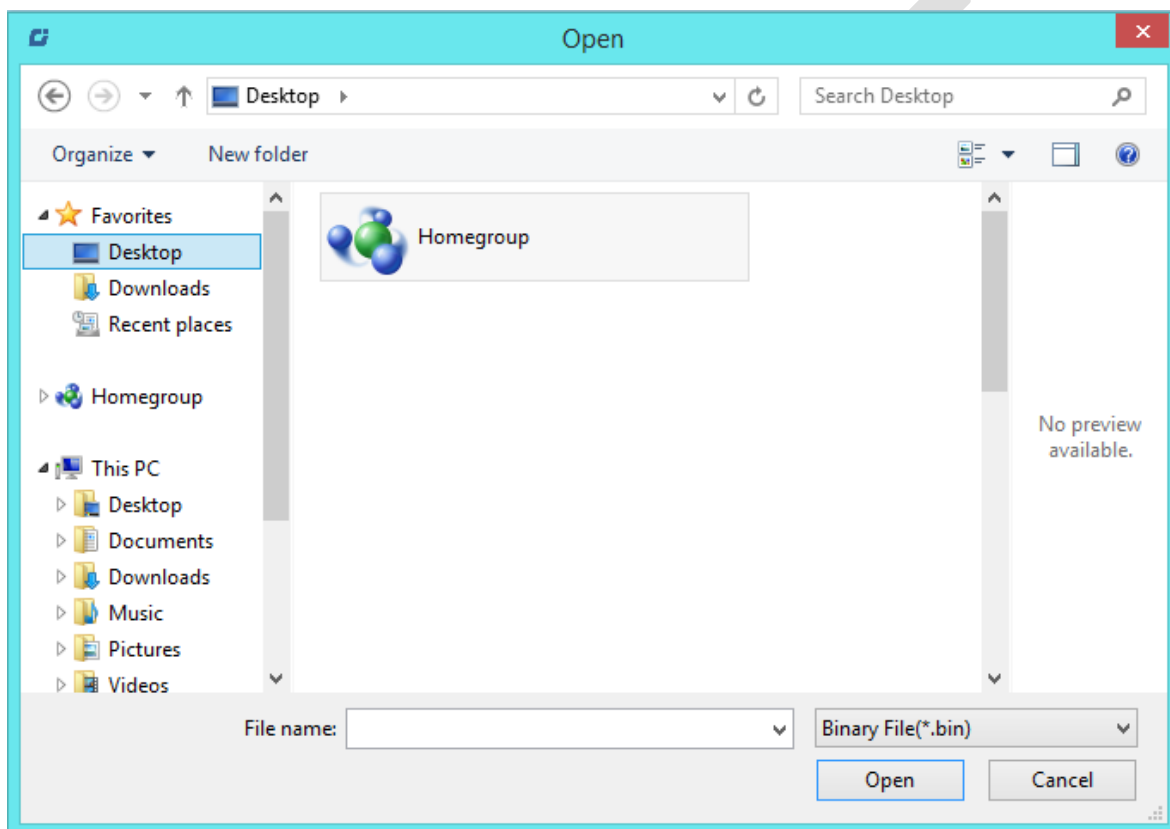

Fig 39: Displaying the Open Window
Step 4: After that, click on the **Open** button to load the file (Refer to Fig 39).